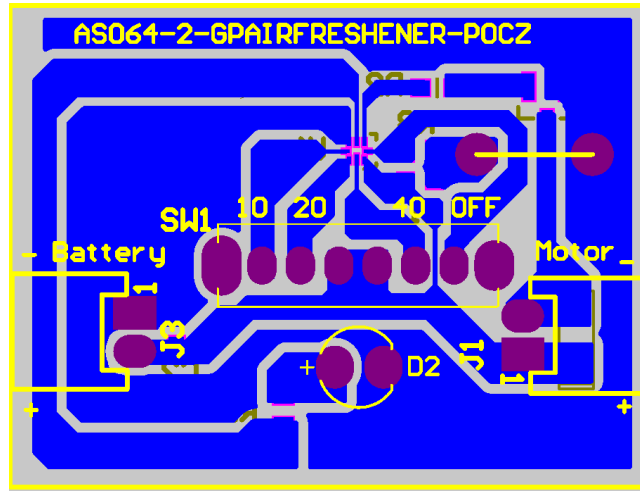

Figure 6. Multilayer Layout Image
- Figure 6. Multilayer Layout Image6